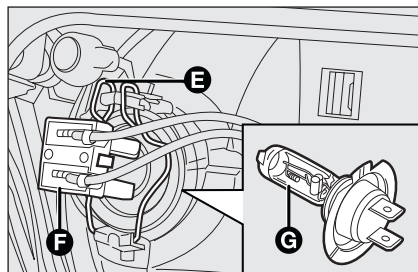

fig. 22
- ☐ disconnect the electrical connector **F**-fig. 22;